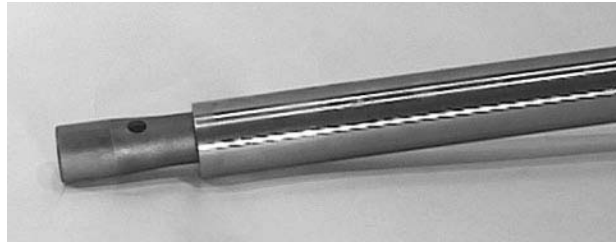

Figure 11-12. Tip Body/Anvil to Access the Striker.
4. Tip the Body/Anvil (1) so the end of the Striker (2) slides out of the body/anvil about six to eight inches. (Figure 11-12).